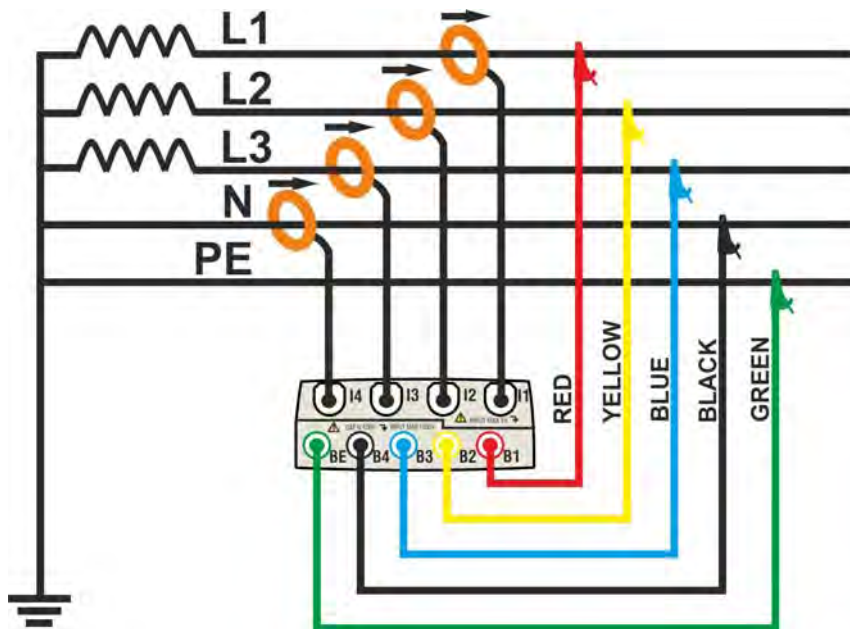

Fig. 133: Meter connection in a three phase 4WIRE system – ENG_UK type
2. Connect voltage test leads on Phases L1, L2, L3, Neutral and Ground cables considering the colours as shown in Fig. 133. **Verify the result “123” at display relative to a correct phase sequence indication** (see § 5.2.1) and perform the corrections if necessary.